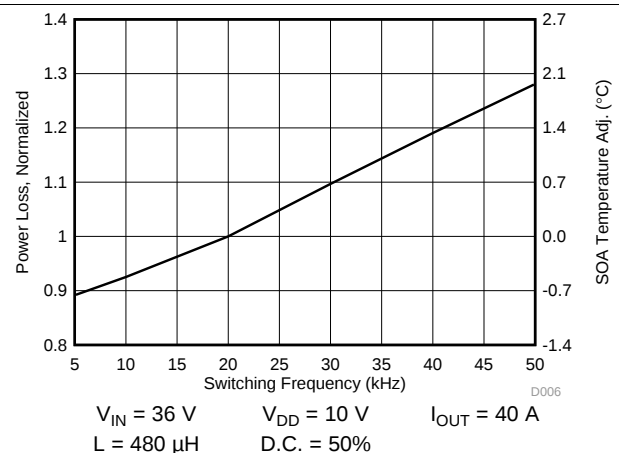

Figure 4. Normalized Power Loss vs Switching Frequency
- Normalized power loss for switching frequency $\approx$ 1.19 (Figure 4)
- SOA adjustment for switching frequency $\approx$ 1.3°C (Figure 4)